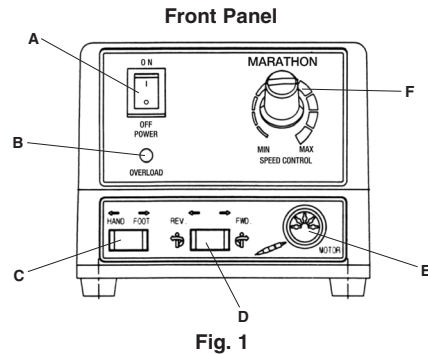

Fig. 1
**Constant Speed Feature:** Much like On/Off Foot Switch, Foot Rheostat can run handpiece at constant speed. Before beginning operation, set dial rheostat on controller to desired speed. With Direct/Remote Switch (Fig. 1, C) set to FOOT, depress Foot Rheostat fully. Speed will increase to dial setting and hold steady. For new constant speed, reset dial rheostat and depress Foot Rheostat fully. Speed will increase to new dial setting and hold steady.